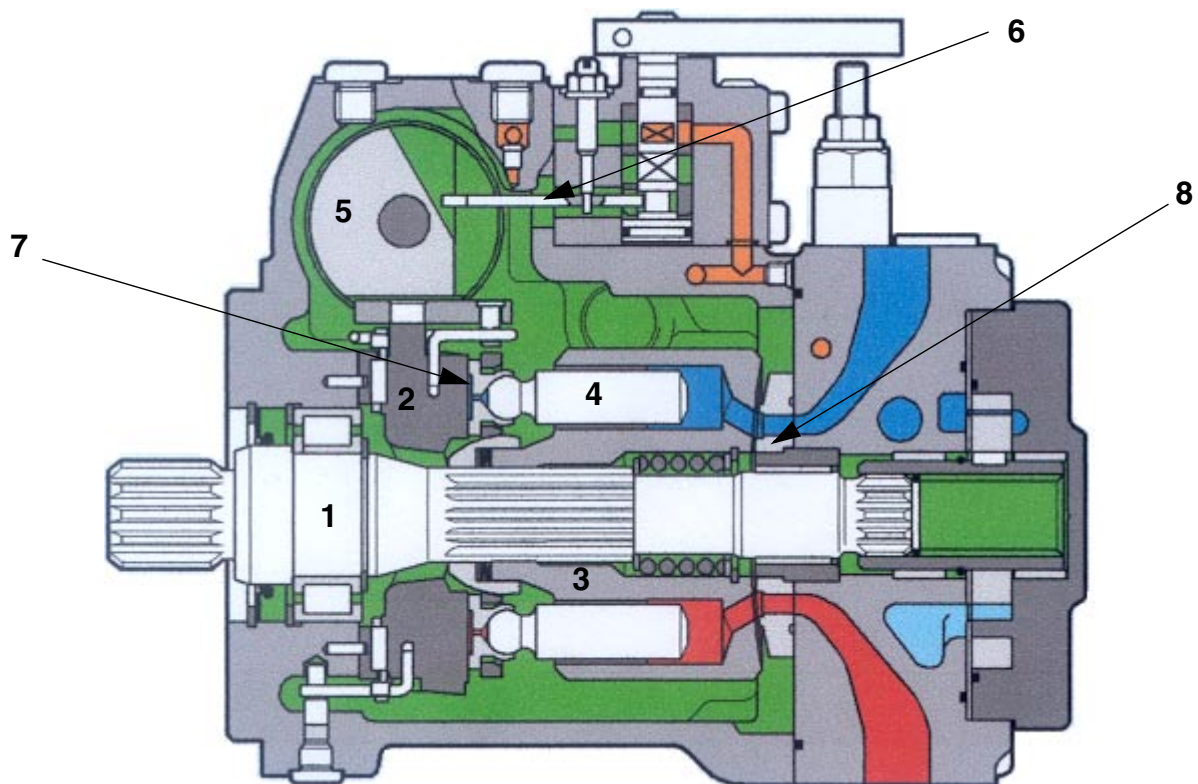

Fig. 3 Travel pump, cross-section
- the manually controlled 4/3-way valve (1)
- the control piston (2)
- the feedback lever (3)
- the swashing lever with the swashing cradle (see Fig. 3).